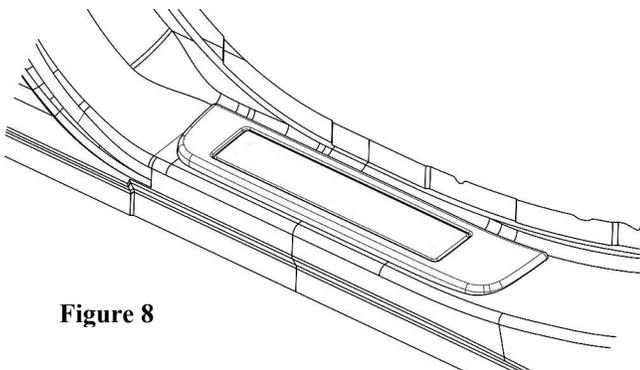

Figure 8
- b) Press down directly above each clip to engage. (Figure 8)